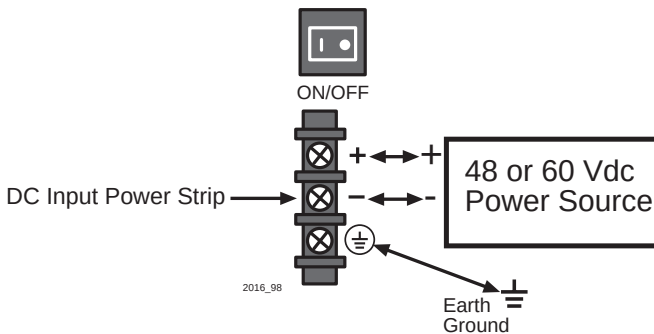

Figure 3-14 48/60 Vdc Power Supply Connections
To connect the 6C205-2 or 6C210-2 to a 48/60 Vdc power source, face the front of the power supply, then refer to Figure 3-14 and proceed as follows:
2. Refer to Figure 3-14 for the proper connections to a 48/60 Vdc power source. Then connect the output leads of the 48/60 Vdc power source being used to the negative (-) and positive (+) terminals on the dc input power strip.